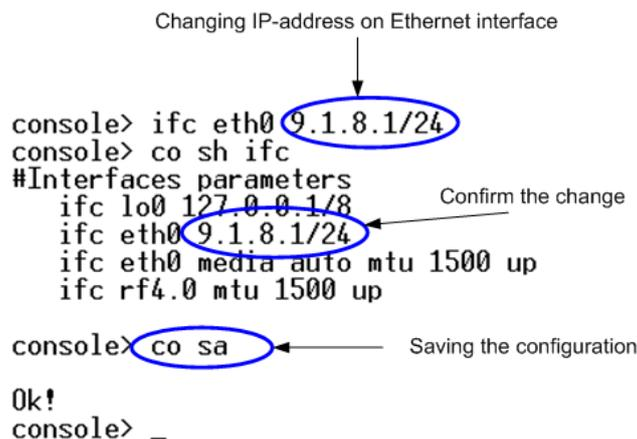

Figure 9. Changing IP-address on **eth0** interface
11. In order for your unit to be accessible from your LAN/PC/Laptop via Ethernet, you should configure **eth0** interface IP-address so the unit would allocate in the desired LAN (or accessible from your PC/Laptop Ethernet adapter). You can change this IP-address via "**ifc eth0**" command as shown on figure 9. After changing the IP-address, save the configuration using "**co sa**" command. In the example given the IP-address being assigned to **eth0** interface is **9.1.8.1** with mask length 24 (255.255.255.0). In order to check whether your changes were correct, use "**co sh ifc**" command which shows configuration for all interfaces of the unit. Do not forget to save your configuration using "**co sa**" (config save) command.